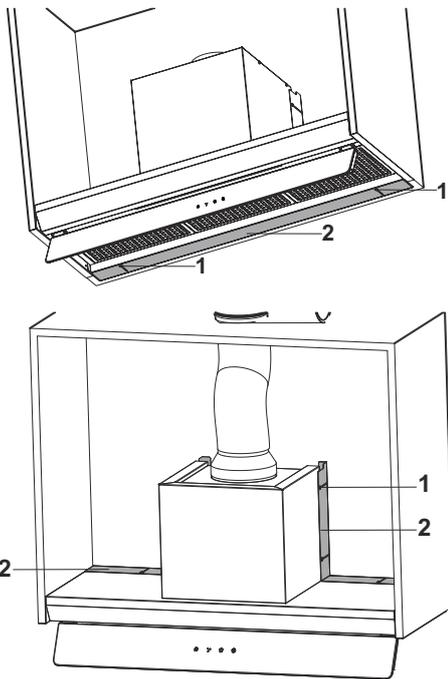

Fig. 18
4. ➔ If there is any clearance between the Hood and the rear surface, fill this clearance with the spacer plate mounted on the appliance (Fig. 18).
Loosen the spacer plate connection screws and stick the spacer plate by pushing it up to the back wall. Repeat this for the other spacer plates on the body (Fig. 18).